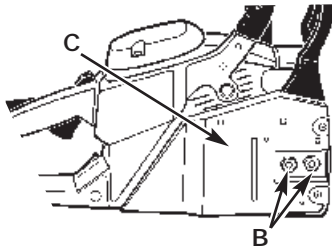
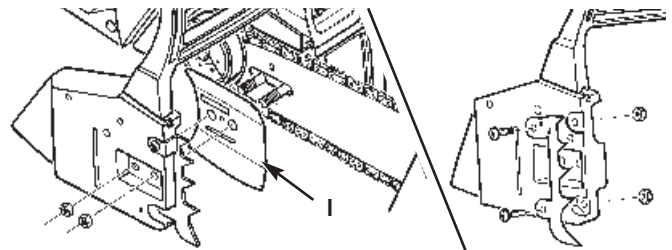
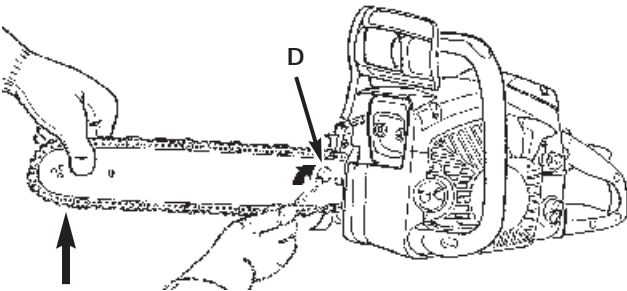

Fig. 22
Fig. 27
Fig. 28
2. Remove the 2 bar retaining nuts (B) at front of the Chain Brake® cover (C). Remove outer guide bar plate (M, Fig. 27) by pulling straight out (Fig. 22).
5. Replace the outer guide bar plate (I) so the bent edges (top and bottom) are directed away from the chain (Fig. 27).
6. Install spike on Chain Brake® cover as shown in Fig. 27 (Optional accessory).
7. Install the Chain Brake® cover (Fig. 27). Make sure the chain does not slip off of the bar. Install the 2 nuts hand tight and follow instructions in *Saw Chain Tension Adjustment*.
1. Loosen the bar retaining nut(s) (B, Fig. 22). Hold nose of guide bar up and turn adjustment screw (D) COUNTERCLOCKWISE to increase chain tension. Turning screw CLOCKWISE will decrease amount of tension on chain. Ensure the chain fits snugly all the way around the guide bar (Fig. 28).